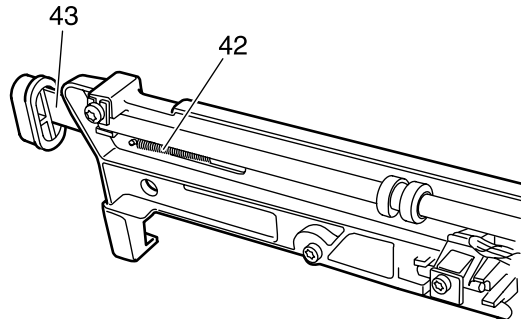

**Fig. 20**
6. Apply the tension spring 42 (Fig. 20).